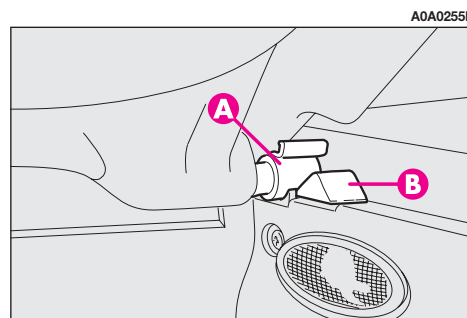

fig. 19
- release the pins (**A**-fig. 19) at the outside of the shelf from their housings (**B**) obtained in the side supports, then remove the shelf pulling it outwards.